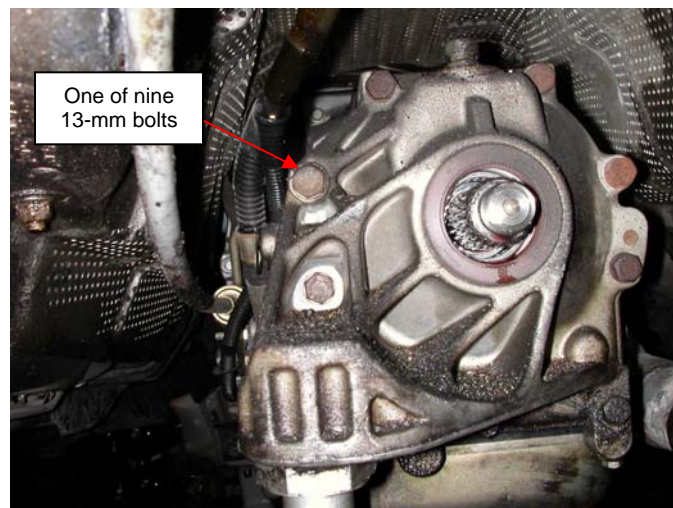

Fig. 12 Bolts holding extension case to transmission housing
- b. Remove the nine 13-mm bolts holding the extension case to the transmission housing (see Fig. 12).